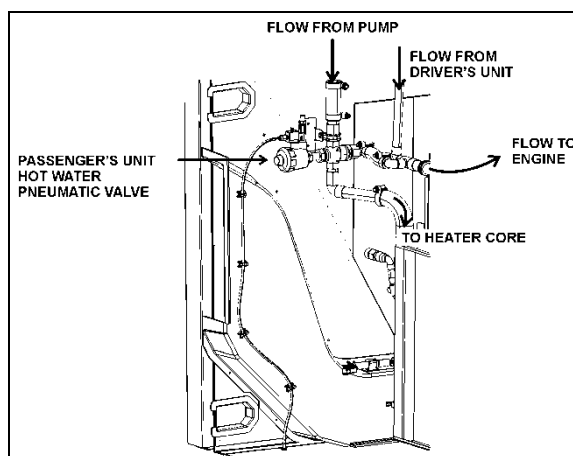

**FIGURE 71: DRIVER'S UNIT HOT WATER PNEUMATIC VALVE ASSEMBLY**
The flow of hot water to the driver's unit heater core is controlled by a normally-open (NO) pneumatic valve like. The valve, located at the ceiling of the spare wheel compartment (Figure 71), is designed so that the pilot solenoid valve, which is part of the assembly, opens and closes a port which directs air pressure to the actuator casing, thereby opening or closing the valve.
2. Locate the normally open hot water pneumatic valve on the ceiling of the spare wheel compartment (Figure 71), disconnect its wiring connector, and then connect a 24-volt external power source, using jumper cables, to close valve.